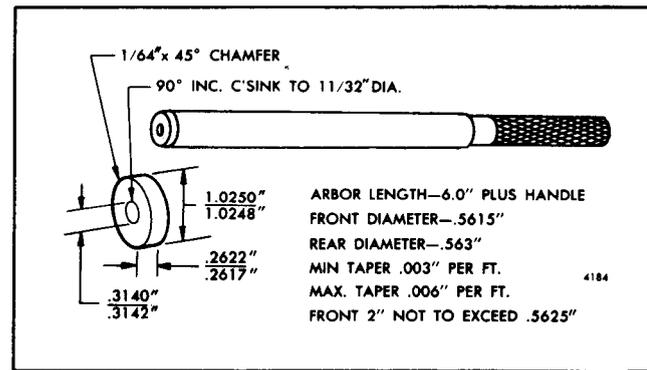

Fig. 13 - Fabrication of Governor Housing-to-Base Alignment Tool
**NOTE:** To install a current design governor base on a former design housing or a former design base on a current design housing, No. 3 taper dowel pins must be used. Refer to Fig. 13 for fabrication of tools necessary to properly align the base and the housing and proceed as follows:
**NOTE:** To install a current design governor base on a former design housing or a former design base on a current design housing, No. 3 tapered dowel pins must be used. Refer to Fig. 13 for fabrication of tools necessary to properly align the base and the housing and proceed as follows: